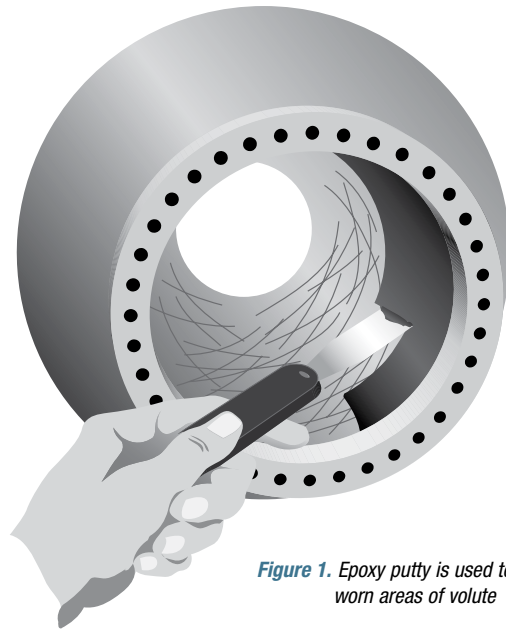

Figure 1. Epoxy putty is used to rebuild worn areas of volute
- 2. Build Up:** Build up the gouges and worn areas on the inside of the body by applying a smooth coating of composite coating. To avoid air entrapment, use a suitably shaped thin plastic or metal applicator to apply a thin coat of product to all faces of the cavities. (See Figure 1)